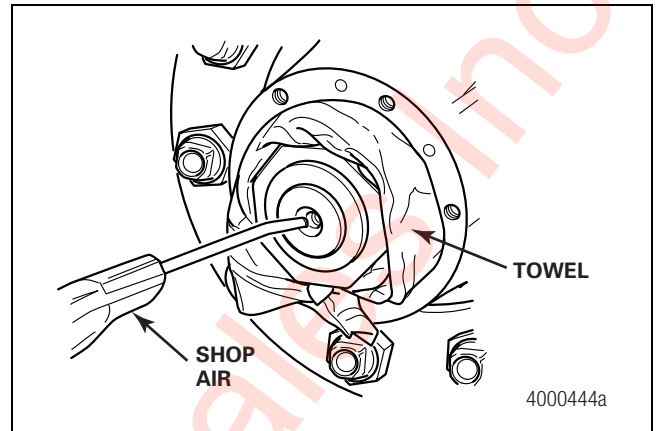

Figure 2.37
11. Remove all drill jig components from the spindle. Clean the axle end. Use shop air to clean the drilled hole. Figure 2.37.
13. Remove the tap guide. Clean the axle end. Use shop air to clean the tapped hole. Figure 2.37.